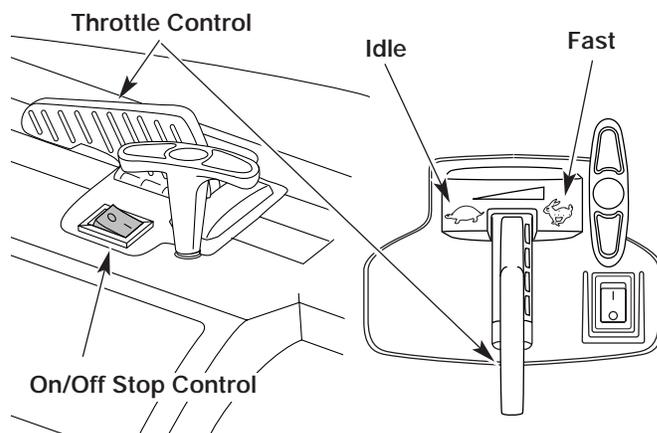
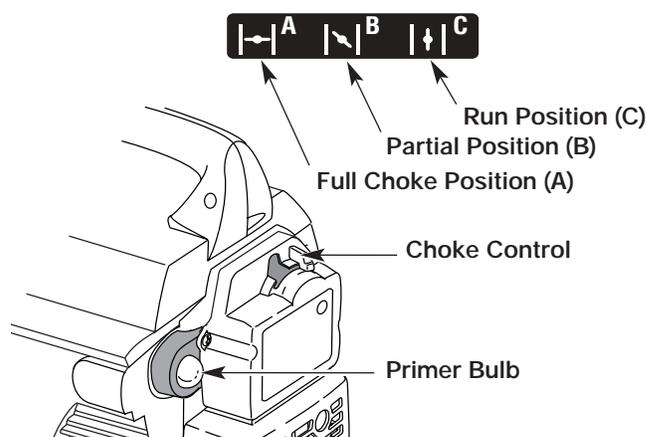
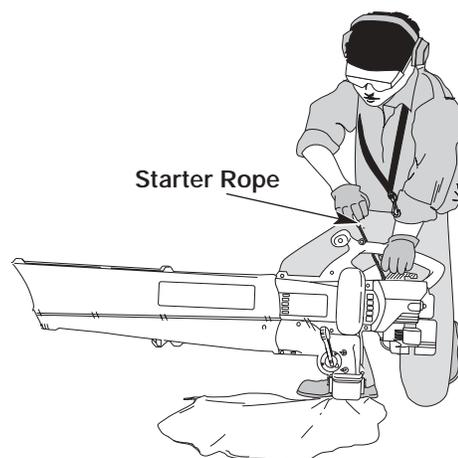

Fig. 9
Fig. 10
Fig. 11
WARNING: Avoid accidental starting. Make sure you are in the starting position when pulling the starter rope (Fig. 11). To avoid serious injury, the operator and unit must be in a stable position while starting.
3. Fully press and release the primer bulb 10 times, slowly, until **FUEL IS VISIBLE IN THE PRIMER BULB** (Fig. 10). If you can't see fuel in the bulb, press and release the bulb as many times as it takes before you can see fuel in it.
4. Place the choke lever in the **FULL** choke (|←|) position (Fig. 10).
5. Place the unit in the starting position (Fig. 11). Move the throttle control to the fast position (↻) (Fig. 9).
7. Place the choke lever in the **PARTIAL** choke (|↘|) position (Fig. 10).
8. Pull starter rope briskly 1 to 3 times to start the engine (Fig. 11).
NOTE: If the engine floods while trying to start, place the choke lever in the **RUN** (|↑|) position (Fig. 10). Move the throttle control to the fast position (↻) (Fig. 9). Pull the starter rope briskly. The engine should start with three (3) to eight (8) pulls.
NOTE: Choking is unnecessary when starting a warm engine. Put the throttle control in the fast position (↻) (Fig. 9) and start unit with the choke control in the **PARTIAL** (|↘|) position (Fig. 10).
1. Move the throttle control to the idle position (←) (Fig. 9). Allow the engine to cool down by idling for 10-15 seconds.
2. Press the On/Off Stop control down in the **STOP** (O) position until the engine comes to a complete stop.
1. Press the On/Off Stop control down in the **STOP (O)** position until the engine comes to a complete stop (Fig. 9).